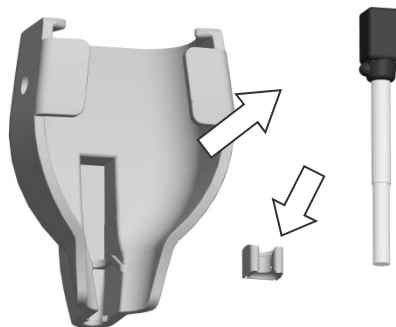

Fig. 7 How to release the Magnetic sensor
- 2) Release the Magnetic sensor from the Magnetic sensor attachment as shown in Fig. 7 and release the Spacer for EZU-RV2S from the Magnetic sensor.